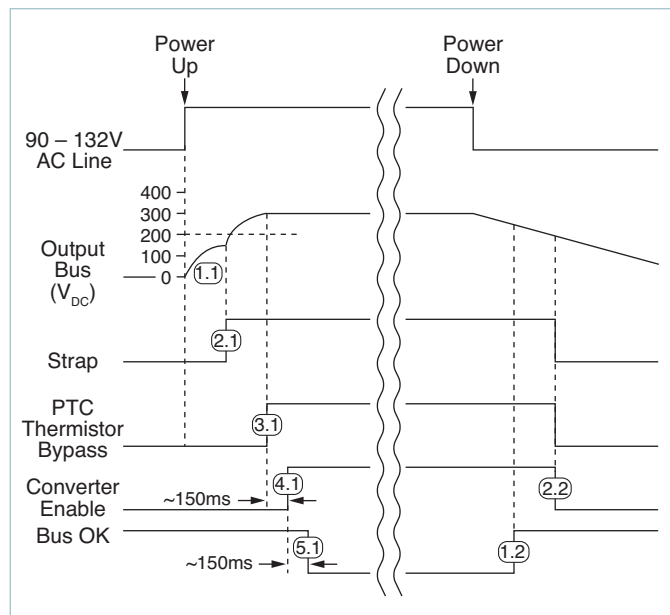

Figure 9 — Timing diagram: power up/down sequence
### Power-Up Sequence (See Figure 9):
**Power-Down Sequence:** (See Figure 9). When input power is turned off or fails, the following sequence occurs as the bus voltage decays: